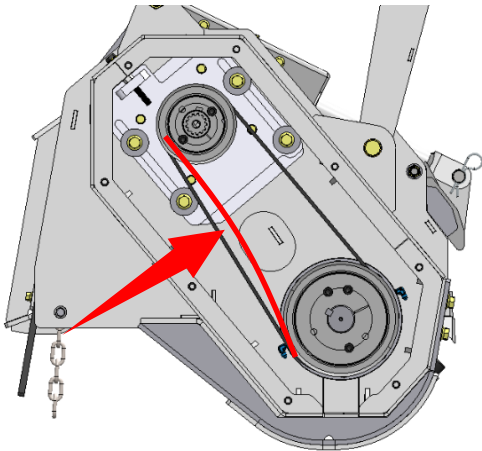

Figure 18
5. After replacing the drive belt, turn the tension bolt clockwise to tighten the belt to the specified tension. See Figure 18.